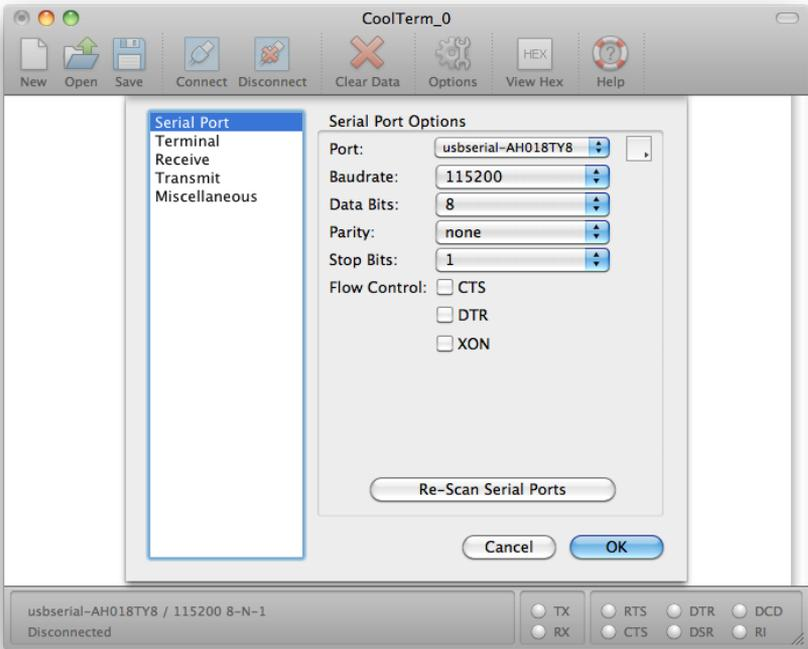

Figure H-3. *Selecting the speed and serial port in CoolTerm*
10. Check the box for "Handle BackSpace Character" to enable it (Figure H-3).